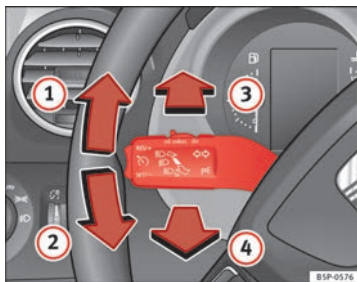

Fig. 78 Turn signal and main beam headlight lever
- Move the lever all the way up ⇒ fig. 78 ① to indicate **right**, and all the way down ② to indicate **left**.
- If the dipped lights are on, push the lever forward ⇒ fig. 78 ③ to switch on the main beam.
- Push the lever towards the steering wheel ⇒ fig. 78 ④ to switch off the main beam.